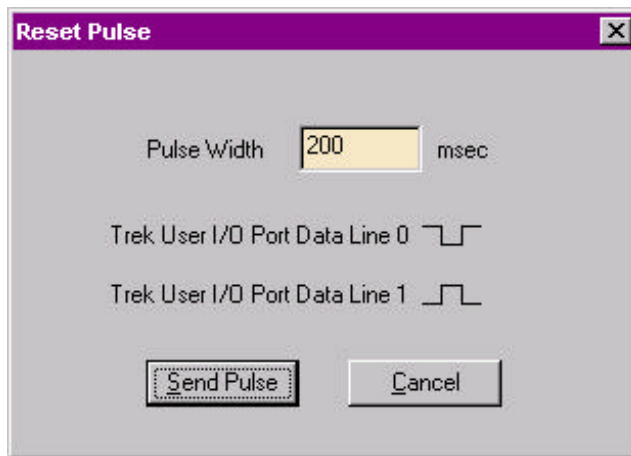

Figure 11. Reset Pulse Width Dialog
3. Click the **Reset Target** button. A reset pulse width dialog will appear as shown in figure 11.
4. Click the **IceTest** button. The IceTest dialog will appear as shown in figure 11.